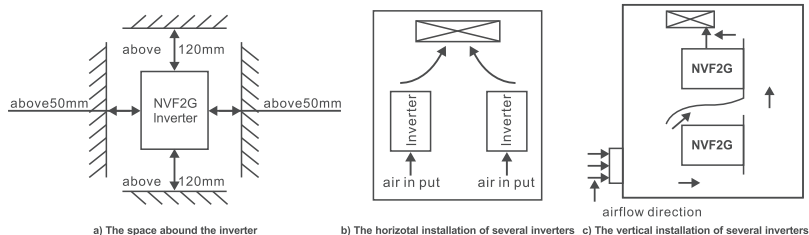

Figure 2.1 Diagram of inverter installation
- 7) Install the inverter on a non-combustible surface (such as metal, wall, etc.), and in order to make the heat easy to dissipate, leave enough space around the inverter (as shown in Figure 2.1).